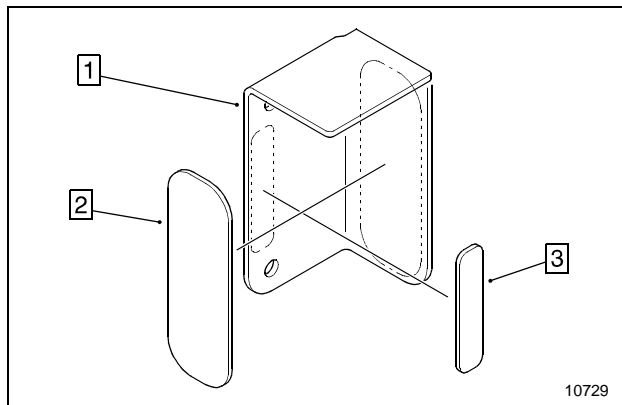

Figure 3
9. Attach the cover pads to the right and left side oil cooler covers as shown (see Figure 3).